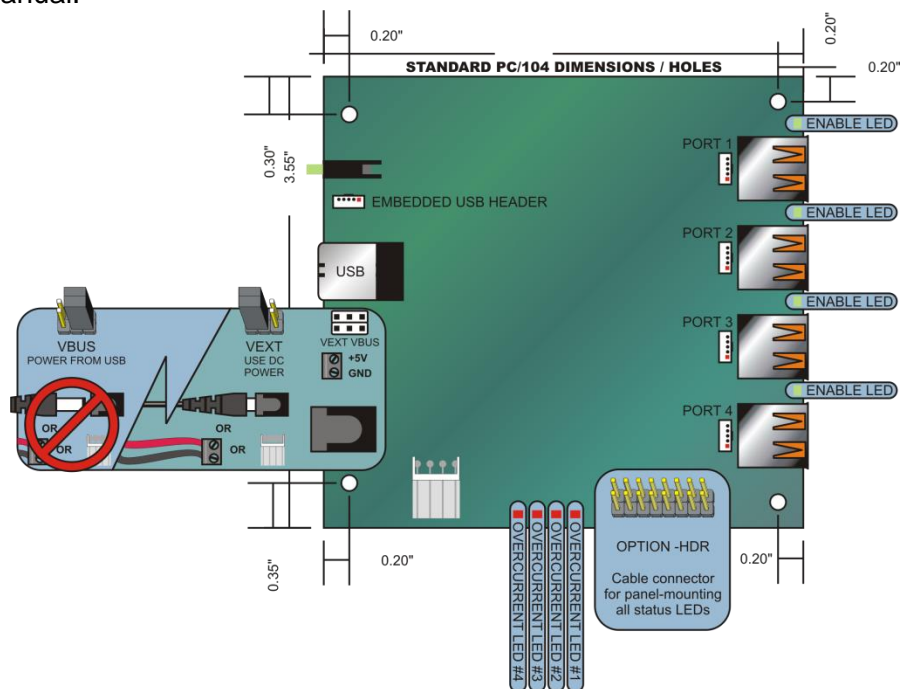

Figure 3-1: Option Selection Map
7. Verify the VEXT / VUSB jumpers are both in the "VEXT" position (see Figure 3-1: Option Selection Map).